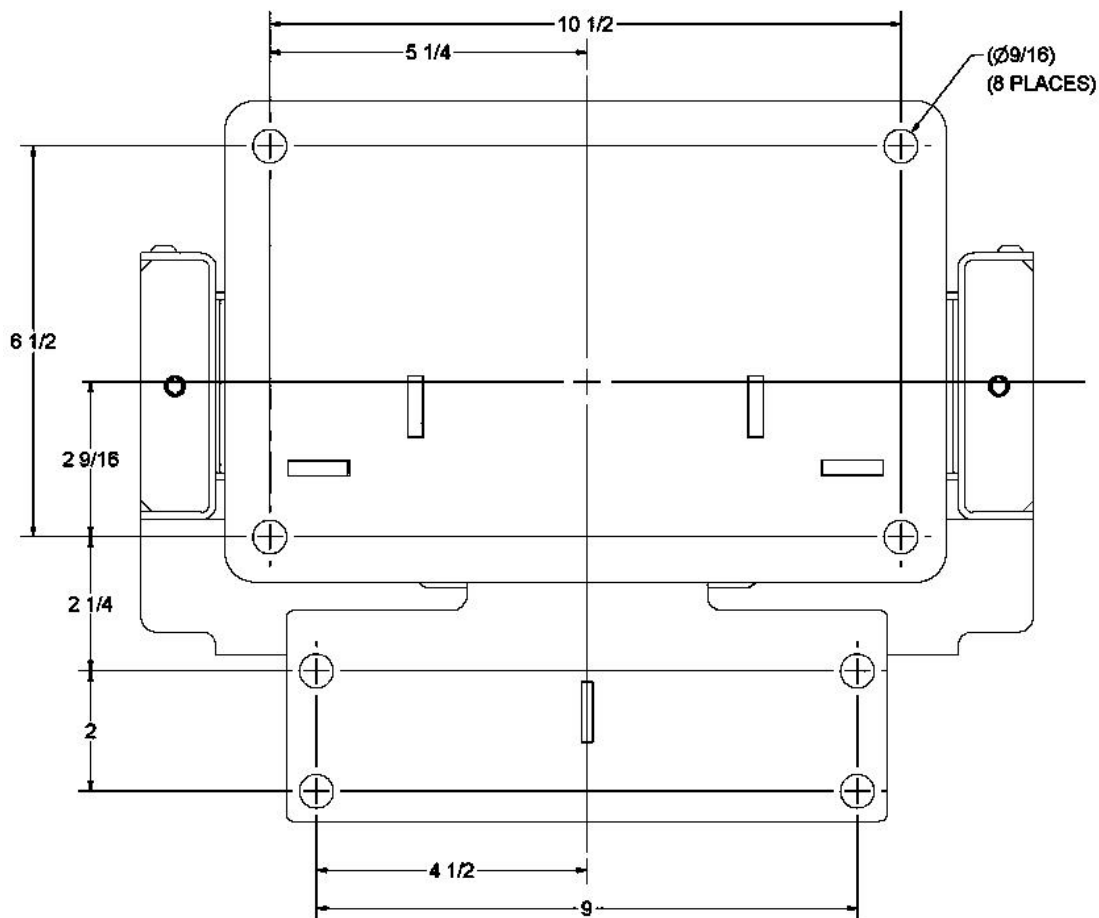

Figure 5-13 Night Scan Vertical HDT Saddle Mounting Holes
2. Drill eight 9/16 inch mounting holes into the mounting structure (Section 5.4.9, Figure 5-13).
1. Drill eight mounting holes into the mounting structure according to Figure 5-13. The brackets can be used as a template to mark locations.